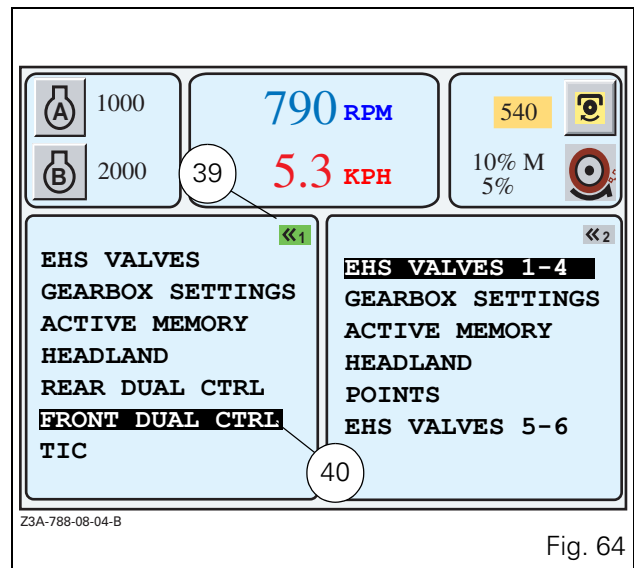

Fig. 64
FRONT DUAL CTRL menu displayed in the left-hand window only (Fig. 64):
- To display this menu, press key \ll_1 twice. The first press selects the window and the second press displays the list if no application was activated previously. The active application is indicated by the green icon at the top right-hand of the window (39 Fig. 64), and on b/w screens the active window is indicated by the same icon in reverse video.
- To select the FRONT DUAL CTRL menu, select the application using the encoder. The selected application is displayed in a black frame (40 Fig. 64).
- Pressing the key «₆ switches the DUAL to ON or OFF when the window is active (green icon 39 Fig. 64).